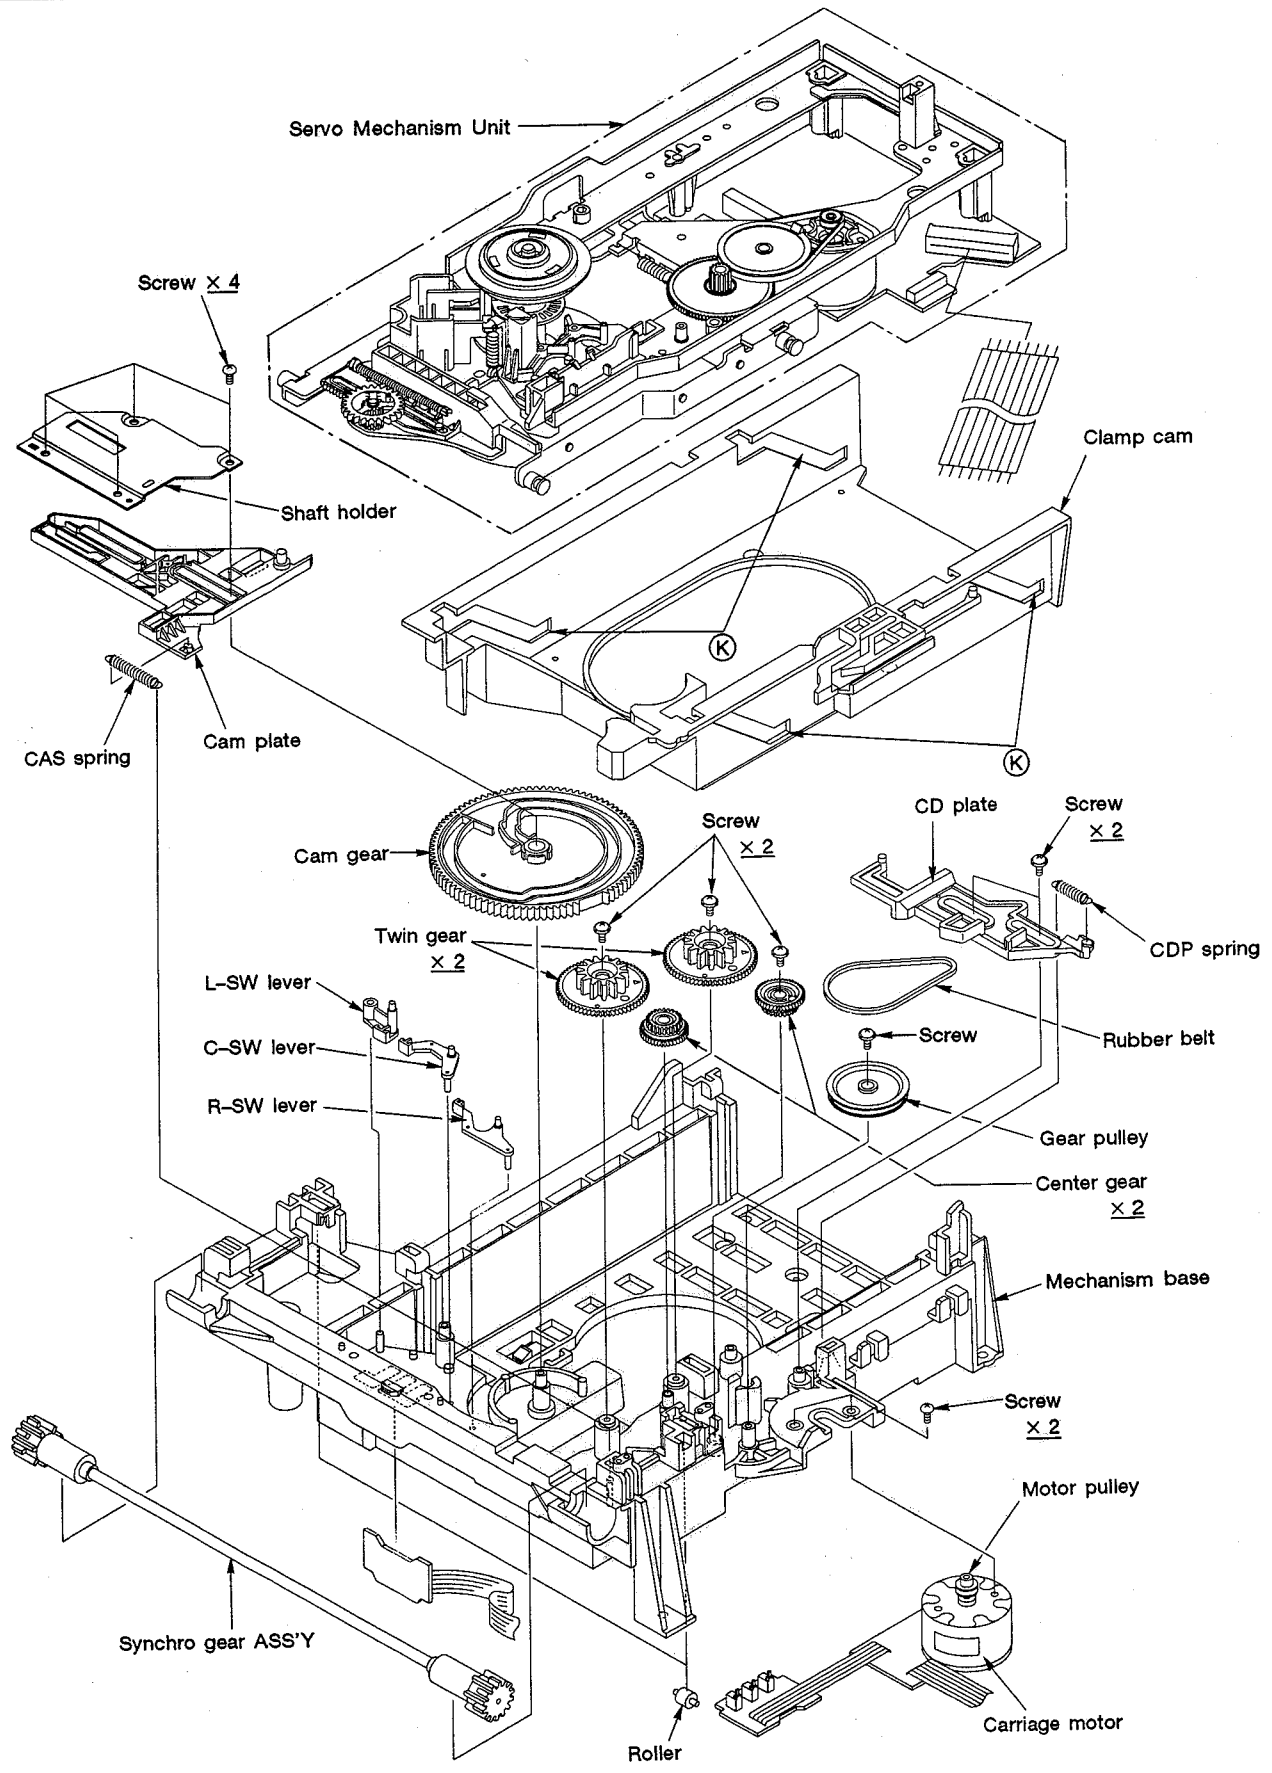
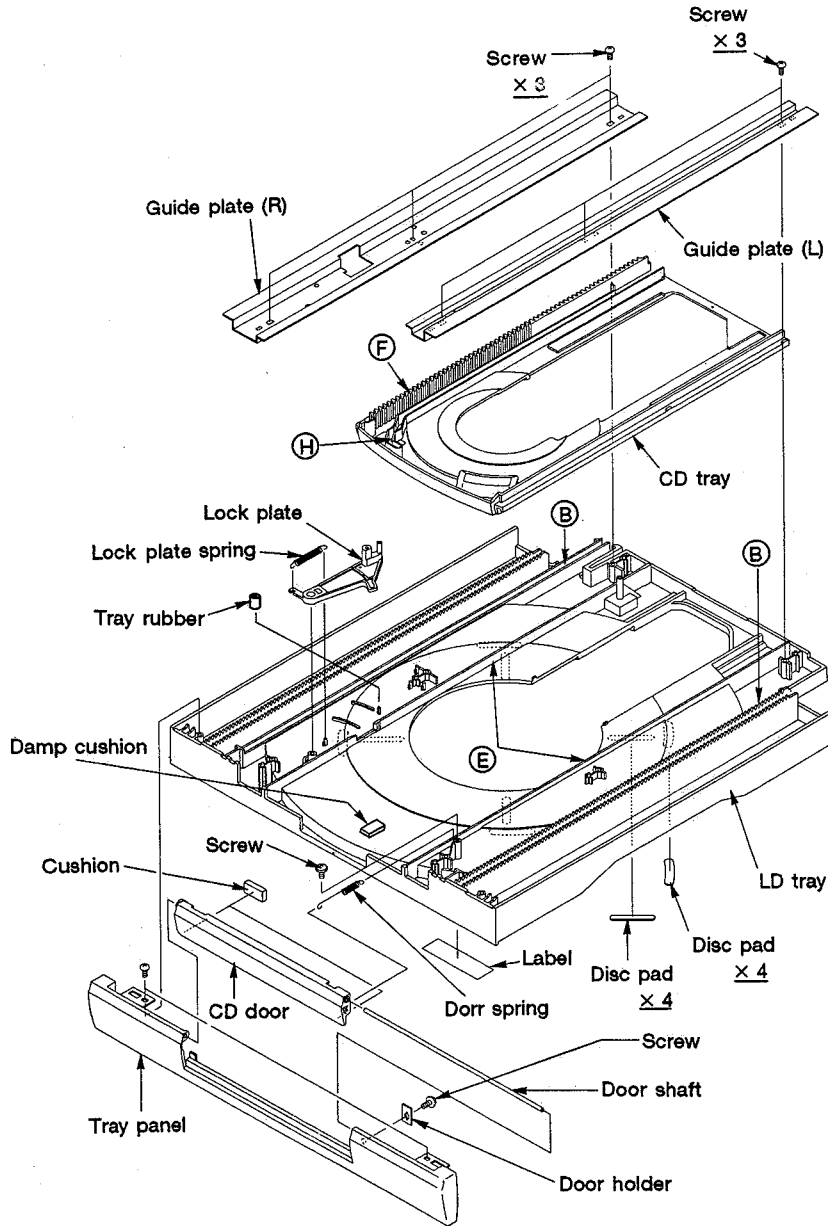
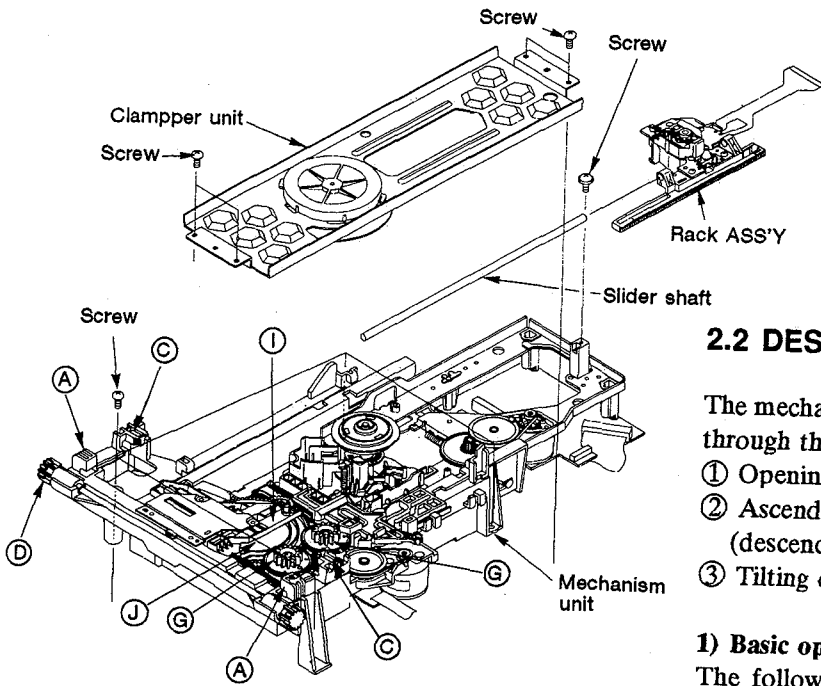
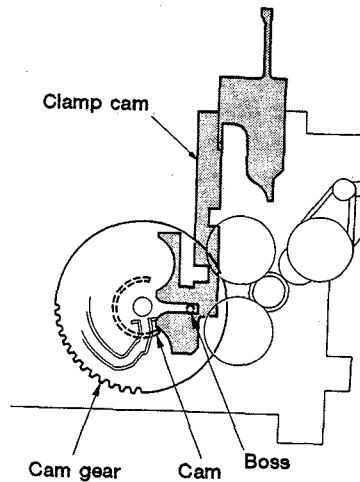

Fig. 2-2 Loading Mechanism unit
Fig. 2-4 Tray unit (Bottom view)
Fig. 2-5 Mechanical unit
Fig. 2-7
- ① Loading mechanism unit (Fig. 2-2)
- ③ Tray unit (Fig. 2-4)
#### ① Loading Mechanism Unit (Refer to Fig. 2-2)
By attaching the servo-mechanism unit and tray unit to the loading mechanism unit, the operations of the mechanism are completed without using the casing and other supporting components (Fig. 2-2) (excluding the operations of the clamper unit and clamp).
③ Tray Unit (Refer to Fig. 2-4 and Fig. 2-5)
As a support system to the tray unit, two protruding portions ① (Fig. 2-5) are located on the front, left of the mechanism base, and a cam groove ② (Fig. 2-4) is located on the bottom side for the left/right movements
of the LD tray. Rollers ③ (Fig. 2-5) are located on the left and right of the mechanism base, and a synchro gear assembly ④ exists for the up/down movements of the LD tray. The synchro gear assembly ensures left/right synchronization. As for the CD tray, a protruding rib ⑤ (Fig. 2-4) is located on the bottom side of the LD tray for the left/right movements, while guide plates are located on the left and right of the rib for the up/down movements.
**① Loading the Tray**
While the rack gear ⑥ (Fig. 2-4) and twin gear ③ (Fig. 2-5) the bottom side of the CD tray are engaged, the cam gear ⑩ is engaged with the twin gear ③. by moving the cam plate ① through the cam ④ (Fig.2-4) on the bottom side of the CD tray. (The rack gear on the bottom side of the CD tray is separated from the twin gear.)
**② Ascending of the Servo-Mechanism Unit**
The clamp cam is moved towards the rear by engaging the cam and boss on the back side of the cam gear to the clamp cam (Fig. 2-7). The servo-mechanism assembly ascends through the cam ⑫ (Fig. 2-2) on the clamper cam.